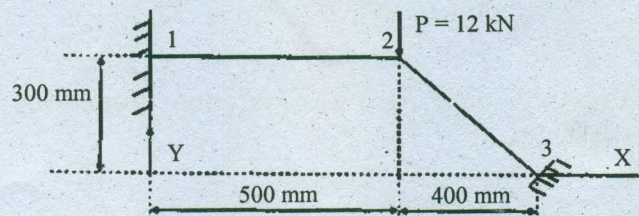

Figure 12 (a).
12. (a) Determine the nodal displacement, element stresses and support reactions in the truss element shown in figure 12 (a). Assume that points 1 and 3 are fixed. Take  $E = 70 \text{ GPa}$ , and  $A = 200 \text{ mm}^2$